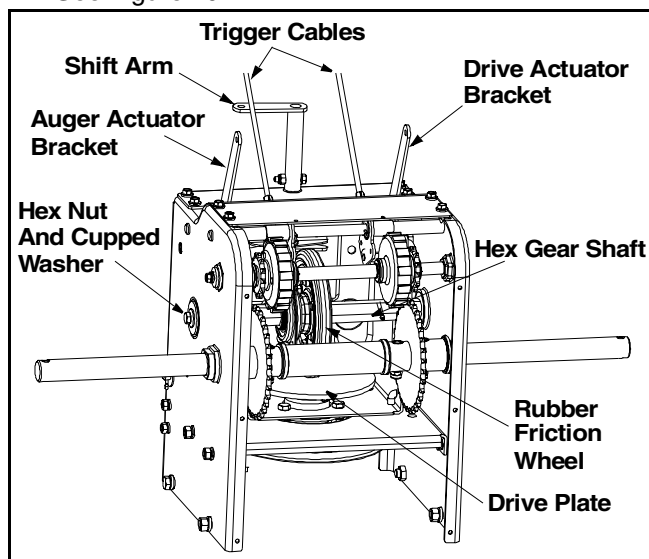

Figure 10
- With the traction control lever engaged, make sure the friction wheel solidly contacts the drive plate. See Figure 10.
At least once a season or after every 25 hours of operation, remove rear cover. Lubricate any chains, sprockets, gears, bearings, shafts, and the shifting mechanism at least once a season. Use engine oil or a spray lubricant. Avoid getting oil on rubber friction wheel and aluminum drive plate. Refer to Figure 10.
Lubricate the gear shaft with 6-in-1 grease (part number 737-0170) at least once a season, or after every 25 hours of operation. Refer to Figure 10.